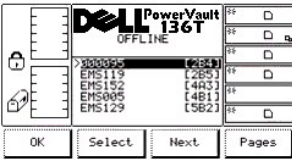

Figure 51. Command > Mailbox > Export Selected Dialog
- 1 If the button beneath the **Select** softkey is pressed, the current item is highlighted in inverted video to indicate a valid selection. Refer to Figure 51.